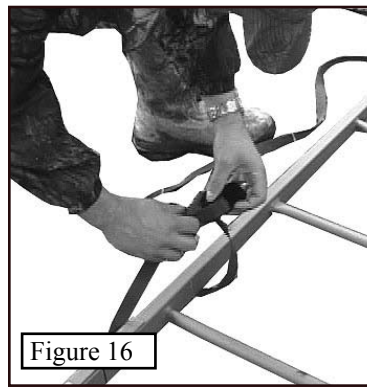

Figure 16
Step 2. Attach the two shorter straps with the ratchet to the bottom ladder column section. They should attach below the second to the bottom rung as shown in **Figure 16**. Wrap the end with the ratchet around the column and run it through the loop to create a cinch knot as shown in **Figure 17** and **Figure 18**.